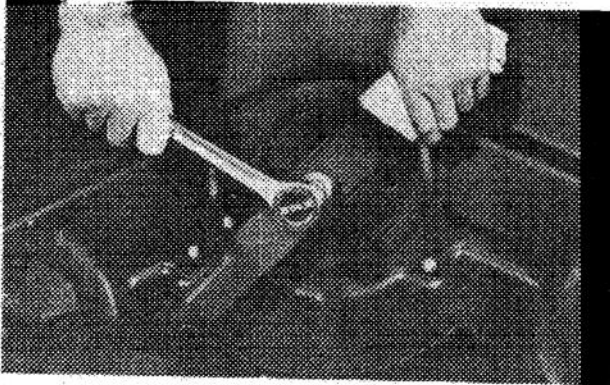

Figure 34
10. Turn cutting unit on its side, grasp the end of a blade with a rag or thickly padded glove; then remove the locknut and blade (Fig. 34).